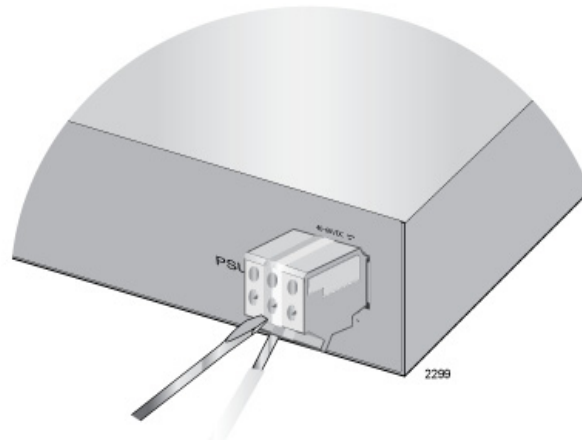

Figure 39. Inserting Wires into the DC Terminal Block
4. Insert the power supply ground wire into the middle connector of the DC terminal and tighten the connection with a flathead screwdriver, as shown in Figure 39 on page 93.